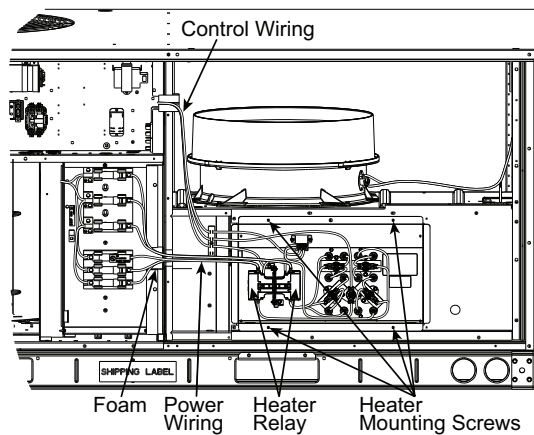
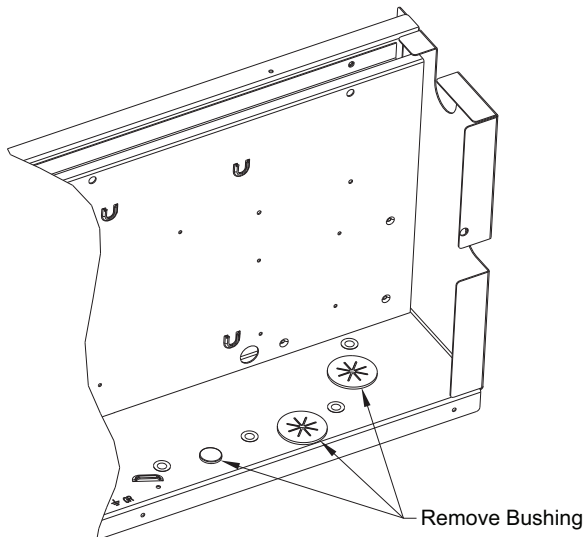
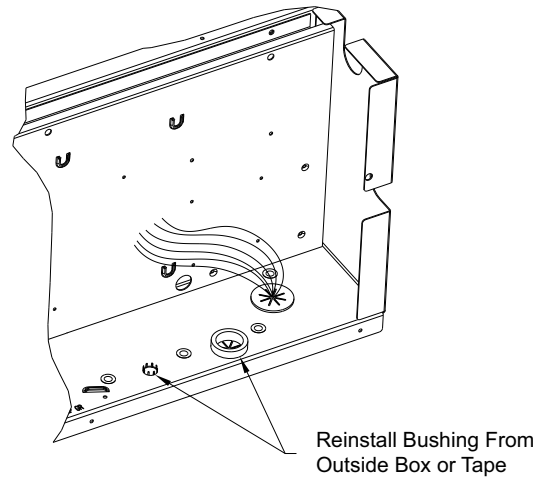

Fig. 4 — Typical Single Point Kit Installation
Fig. 8 — Control Box - Bushings to Remove (STD SCCR and High SCCR)
Fig. 9 — Bushings Replaced from Outside Control Box (STD SCCR and High SCCR)
6. Install the electric heater module and connect heater power conductors to single point box or main unit control box per appropriate connections figure. (See Appendix A on page 19.) See Fig. 4 for typical installation.
7. All bushings in the area of the control box where the single point box (SPB) mounts, must be removed prior to securing the SPB to the control box. (See Fig. 8.) Also, for units installed in the snow belt, all unplugged holes in the bottom of the control box which are not used must be plugged before installing the SPB. Use foil tape or reinstall the bushings from the outside of the control box prior to securing the SPB. (See Fig. 9.)
8. Remove the single point box cover. Secure single point box to the underside of the control box with the 2 screws provided. (See Fig. 4.) Re-install bushing on the SPB tap conductors. (See Fig. 9.)
5. Route power wires from heater module through the foam bushing in the center partition and into the single point box. (See Fig. 4.) Connect to terminal block or fuse blocks per schematics in Appendix A. See Tables at beginning of Appendix A to identify the appropriate figure.